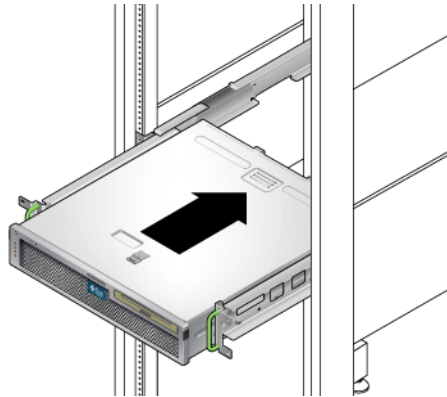

FIGURE 2-20 Sliding the Server Onto the Adjustable Rails
11. Lift the server into the rack and slide the server onto the adjustable rails (FIGURE 2-20).